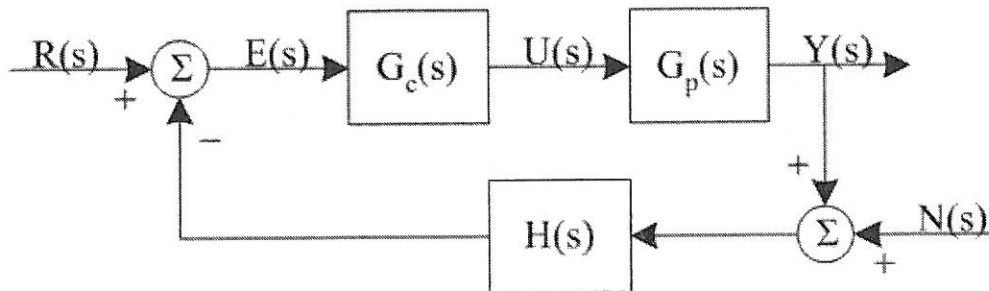

Figure Q4-a: Feedback Control System.
Q.4 Figure Q4-a shows a feedback control system.
- (a) For the feedback system shown above, the reference input is a sinusoidal signal of frequency $\omega < 1$ rad/s. It is desired to have steady-state error less than 2% for these reference signals. The spectrum of the sensor noise lies in frequencies $\omega > 100$ rad/s. It is desired to have the effect of noise on output less than 5% of the noise level. Show that a sufficient condition for meeting the specification is that the magnitude plot of the loop transfer function $L(s) = G_c(s)G_p(s)H(s)$ lies outside the shaded regions in Figure Q4-b.